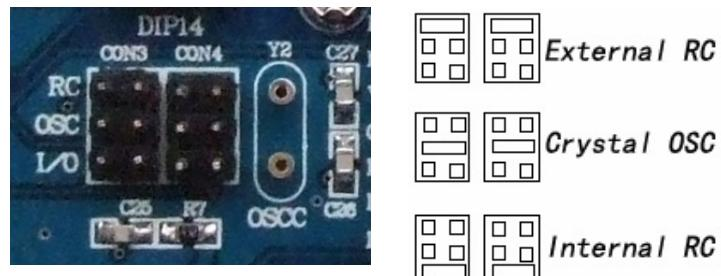

Figure 5-2 DIP8/14/20 Clock
- 2) DIP8/14/20 clock selection. As shown in Figure 5-2.